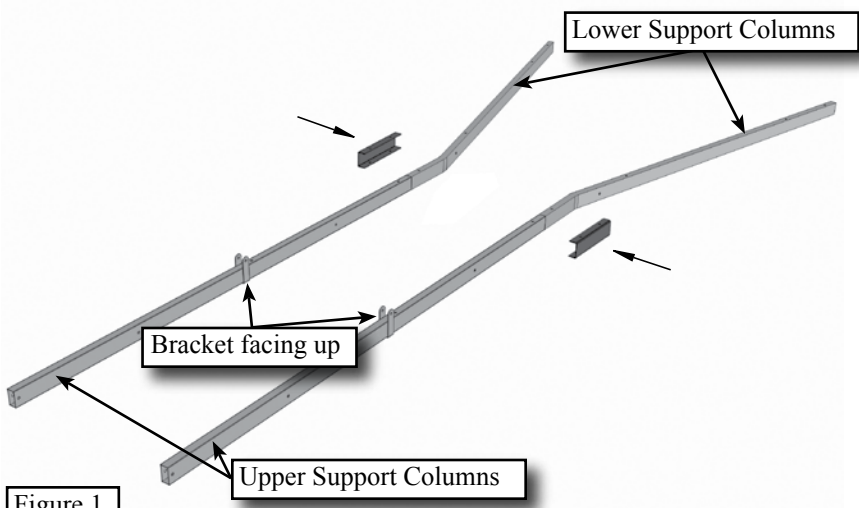

Figure 1
**Step 1.** Position the two upper and the two lower support columns as shown in **Figure 1**. Please note the correct orientation of the welded brackets.